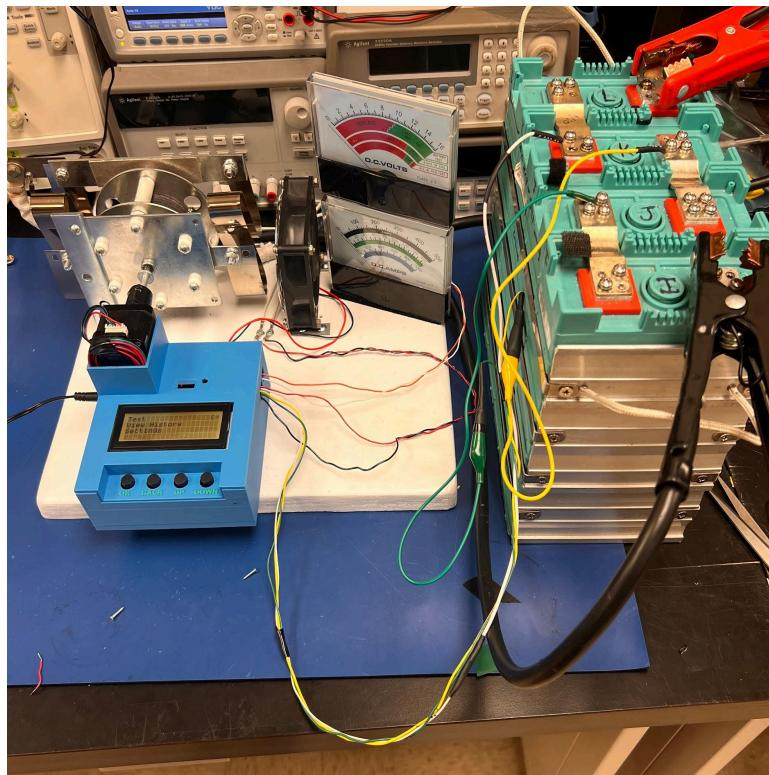

Figure 1.15: Complete Test Setup (JL)
When finished the setup should look like figure 1.15 (JL).